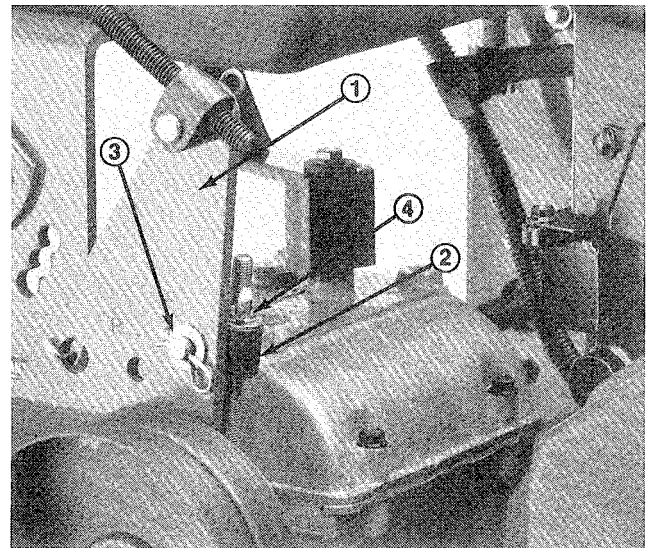

Figure 9
6. If an adjustment to brake rods is required, remove hairpin cotter and washer securing brake rod fitting to idler bracket (Fig. 9).